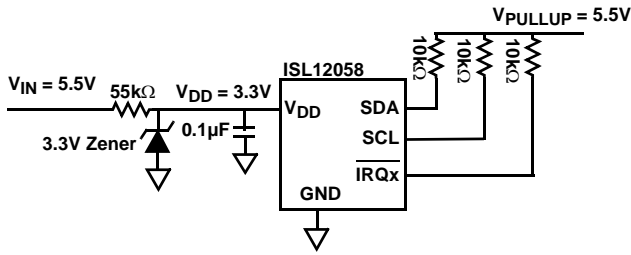

FIGURE 3. EXAMPLE CIRCUIT WITH ZENER DIODE ON VDD TO REDUCE INPUT VOLTAGE TO 3.3V
- A system that cannot connect  $V_{DD}$  to a voltage lower than 3.6V can use a Zener diode on the  $V_{DD}$  pin to lower the  $V_{DD}$  to 3.6V or below. Figure 3 shows an example circuit with a Zener diode to lower the 5.5V input voltage to 3.3V for  $V_{DD}$ .
- A system that cannot connect VDD to voltage lower than 3.6V can use a Zener diode on the VDD pin to lower the VDD to 3.6V or below. Figure 3 shows an example